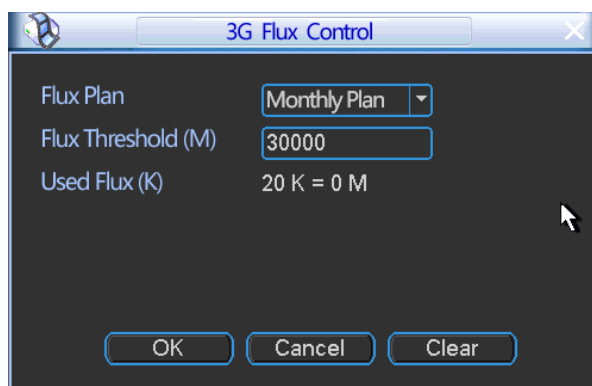

Figure 3-10
- 3G flow control: It is to show the 3G flow you used. See Figure 3-10.